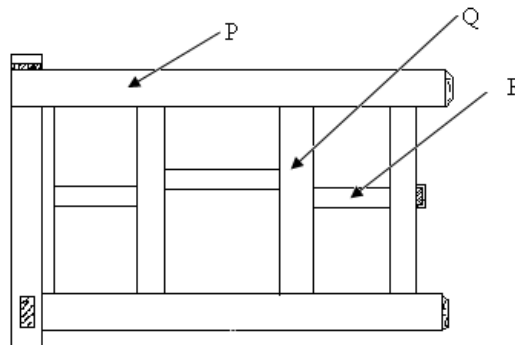

Figure 11
25. Figure 11 shows a part of wooden wall frame.